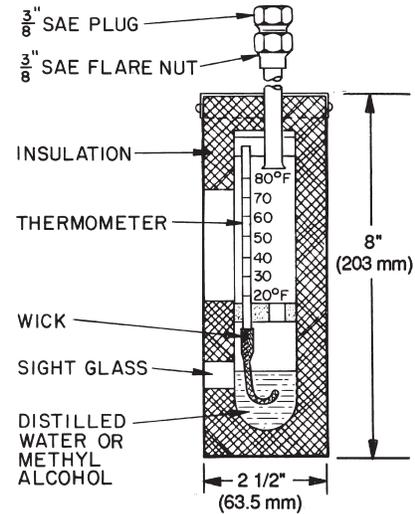

Fig. 32 — Typical Wet-Bulb Type Vacuum Indicator
- absolute pressure manometer or wet-bulb vacuum indicator (see Fig. 32)